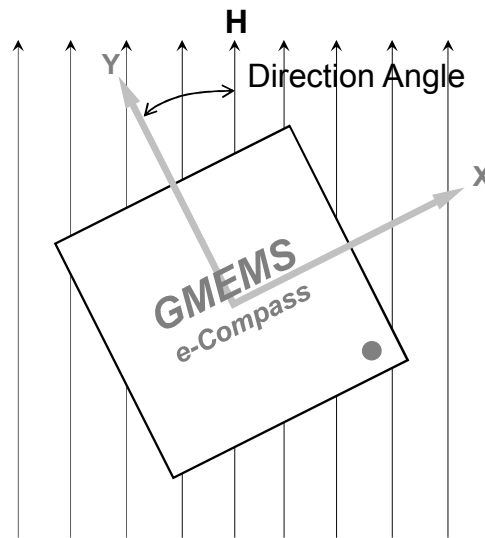

Figure 3: Electronic Compass and Direction Angle
The e-Compass has no such rotating mechanical needle inside, but instead uses magnetometer to detect the geomagnetic field and the direction can be “calculated” from the sensor readouts. For example if we place an e-Compass horizontally as shown in the Figure 3, the e-Compass will pick up the horizontal component (H) by the X- and Y-axis readings. The direction angle can be simply